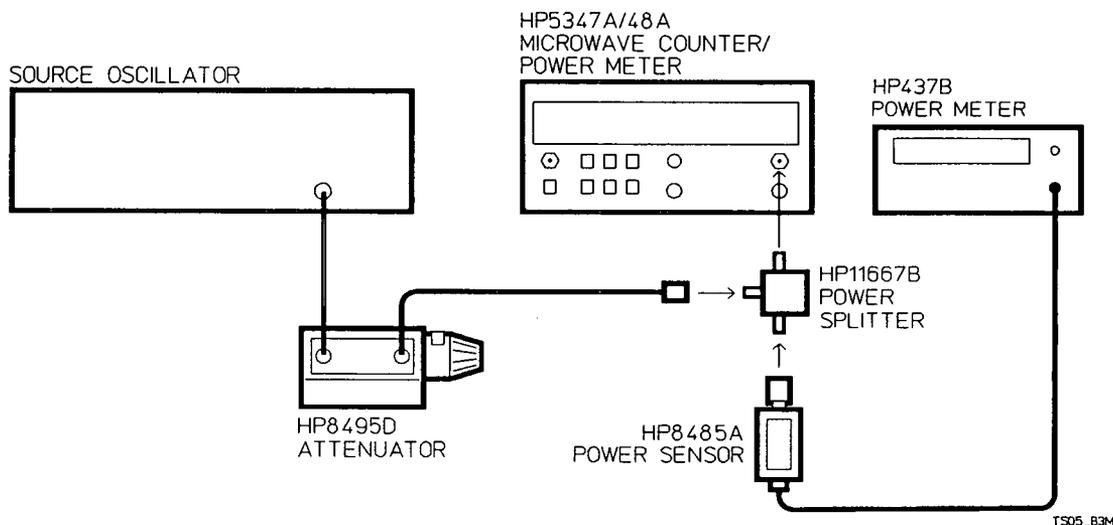
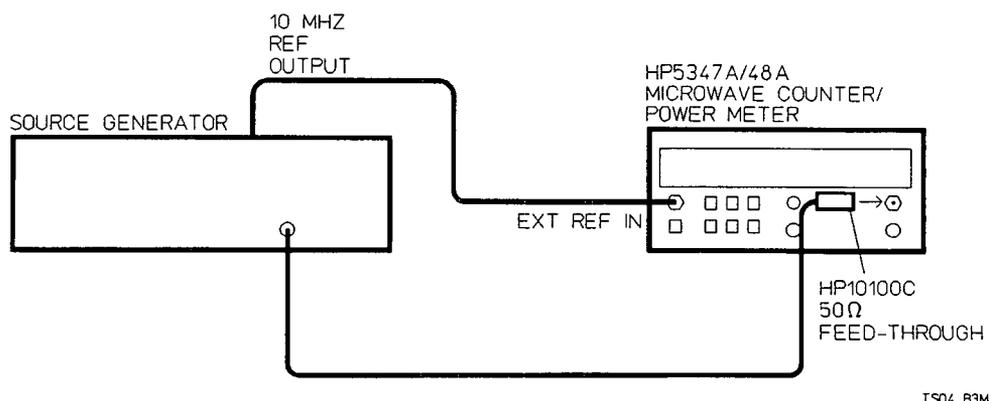

Figure 4-1. INPUT 2, 50 MHz-525 MHz Verification Test Setup
Figure 4-2. INPUT 2, 10 MHz-50 MHz Verification Test Setup
Description: This check is in two parts to check both the high frequency measuring capability of the 50 Ω input impedance and the low frequency measuring capability of the 1 M Ω input impedance of INPUT 2. In Part I, the HP 5347A/48A is set to the 10 MHz-525 MHz range, 50 Ω impedance, and a 25 mV rms (-19.3 dBm) signal is applied to INPUT 2. The source is set to selected frequencies and the HP 5347A/48A is checked for proper counting. Next, the HP 5347A/48A's 1M Ω impedance for the lower frequency range is checked. Since the same test setup in *Figure 4-1* with the addition of a 50 Ω feedthrough is used to perform the 80 MHz check, the 80 MHz check is performed before the 10 Hz-50 MHz check. A 25 mV rms (-19.3 dBm) 80 MHz signal is applied to INPUT 2 through a 50 Ω feedthrough, and the HP 5347A/48A is checked for proper counting. In Part II, the test setup is changed to *Figure 4-2* to test the 10 Hz-50 MHz range.
1. Connect the equipment as shown in Figure 4-1.
The 1 M Ω impedance of INPUT 2 is checked with an 80 MHz input signal before it is checked with signals from 10 Hz through 50 MHz. This is done for convenience since to perform the 80 MHz check you need to use the test setup in Figure 4-1 with the addition of the 50 Ω feedthrough between the power splitter and INPUT 2 connector.
1. Using the test setup in *Figure 4-1*, insert a 50 Ω feedthrough (HP 10100C) between the HP 1667B power splitter and INPUT 2 of the HP 5347A/48A.
1. Connect the equipment as shown in Figure 4-2.